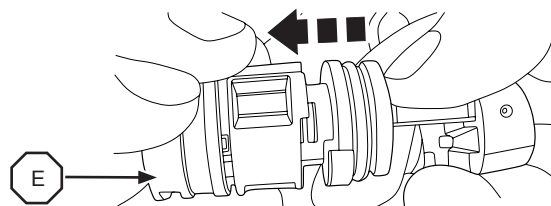

FIGURE 6
7. Insert the tumbled and greased Cylinder (L) inside the Sleeve (E). (Refer to Figure 6).